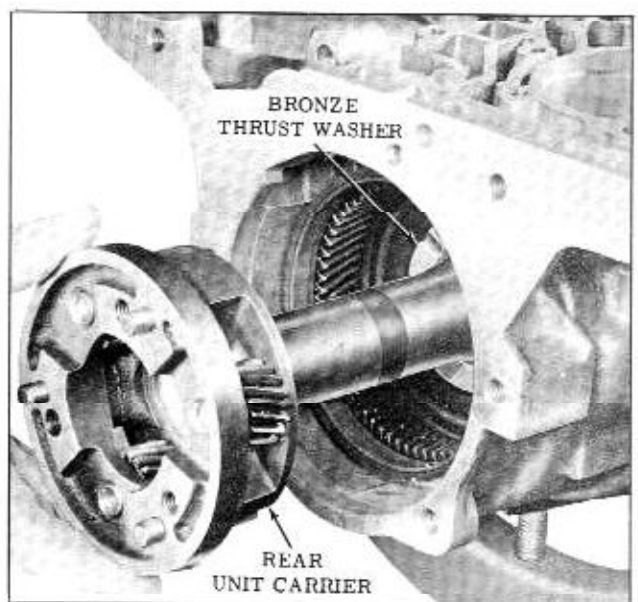

Fig. 3-50 Removing Rear Unit Carrier
46. Remove the rear unit carrier assembly and internal gear bronze thrust washer from rear of transmission. (Fig. 3-50)